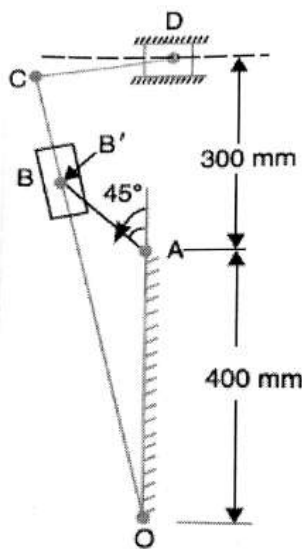

Fig.4
- Q.5 A mechanism of a crank and slotted lever quick return motion is shown in Fig.4 If the crank rotates counter clockwise at 120 r.p.m., determine for the configuration shown, the velocity and acceleration of the ram D. Also determine the angular acceleration of the slotted lever. Crank, AB= 150 mm; Slotted arm, OC = 700 mm and link CD = 200 mm. 15